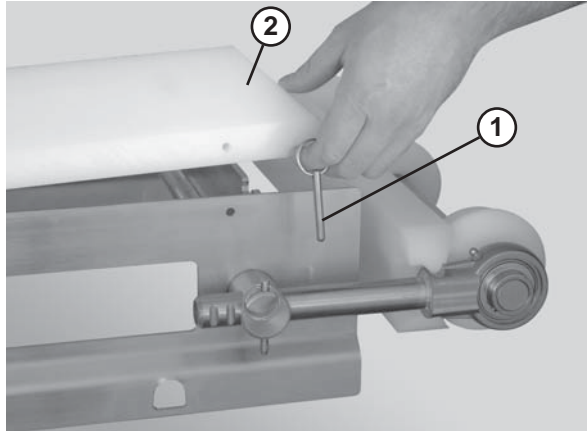

Figure 43
1. Remove the pull pins (**Figure 43, item 1**) that connect the guides (**Figure 43, item 2**) to the frame.